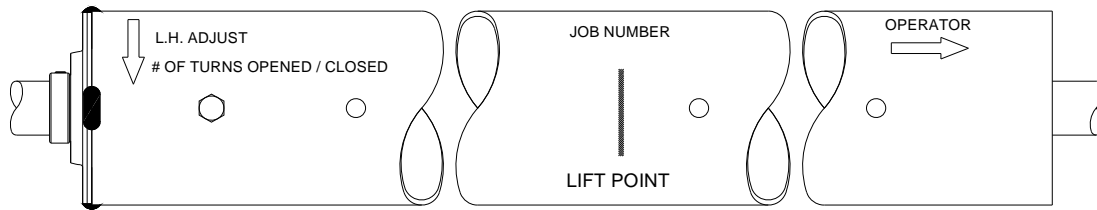

Figure 6.1 – Barrel Markings (left hand adjust shown)
- Unpack the barrel assembly. Note the markings on the barrel, see **Figure 6.1** below.
- Check to make sure the required number of turns is noted on the barrel, as shown in **Figure 6.1**. Consult the distributor or the manufacturer if you cannot locate this information. Check that these numbers match the information provided on the job information. Take note of these numbers, as access to this information may be obstructed once the curtain is installed.
- **Crane Hoisting:** Place a sling or lifting agent under the barrel assembly at the “lift point” provided on the barrel, see **Figure 6.1**.
- **Forklift Hoisting:** Space the forks evenly under the “lift point” provided on the barrel, see **Figure 6.1**. Ensure that the barrel assembly is positioned close enough to the tips of the forks that the fastening holes in the bracket can be aligned with those of the guides without the forks contacting the wall. Secure the barrel assembly to avoid the slipping off the tip of the forks.